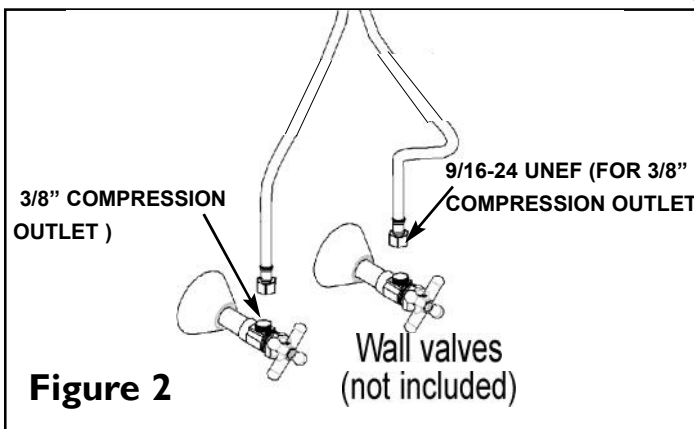

Figure 2
3. Attach hot/cold spout supply directly to valves in the wall. **See Fig. 2**